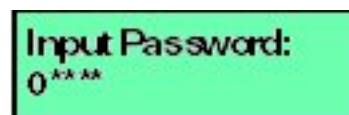

Figure 3.20. LCD Panel (Password Entry)
1. At the LCD panel, press **ENTER**. The **Welcome!!** or operational information message changes to the following (Figure 3-20):